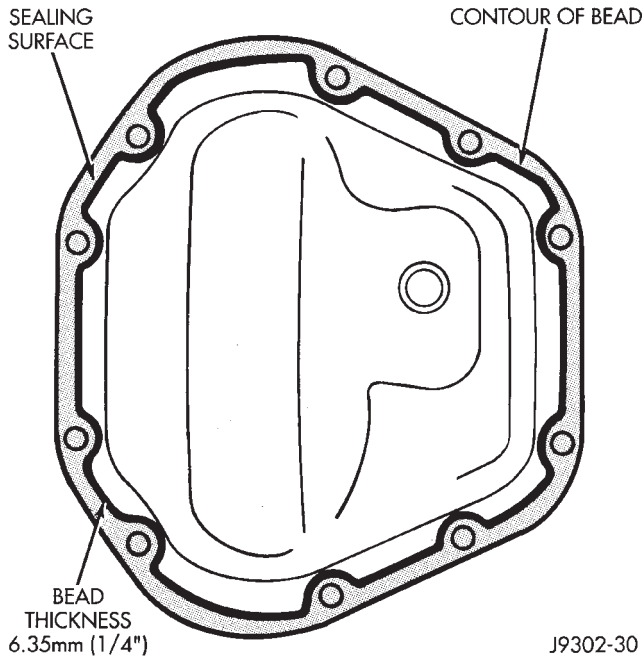

Fig. 4 Typical Housing Cover With Sealant
- (1) Raise and support the vehicle.
- (2) Remove the lubricant fill hole plug from the differential housing cover.
- (3) Remove the differential housing cover and drain the lubricant from the housing.
- (4) Clean the housing cavity with a flushing oil, light engine oil or lint free cloth. **Do not use water, steam, kerosene or gasoline for cleaning.**
- (5) Remove the sealant from the housing and cover surfaces. Use solvent to clean the mating surfaces.
- (6) Apply a bead of Mopar Silicone Rubber Sealant to the housing cover (Fig. 4). **Allow the sealant to cure for a few minutes.**